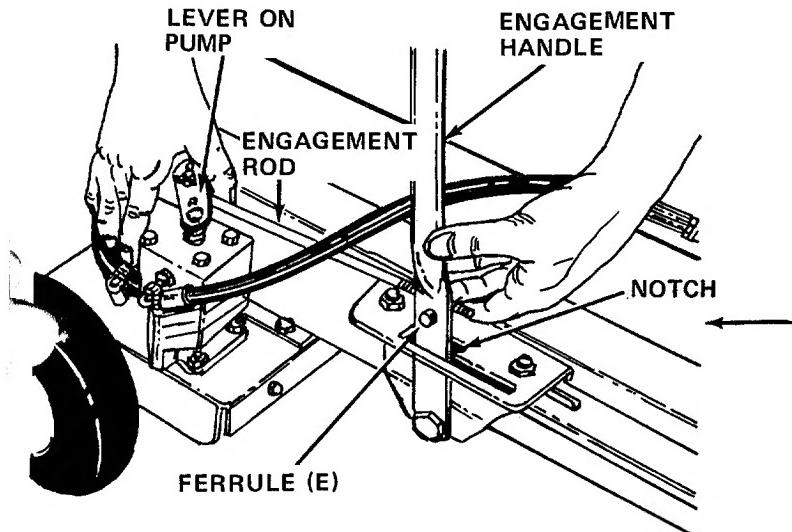

FIGURE 8
- Place the engagement handle in the notch in the slotted bracket (Reverse position). See figures 8 and 11. Thread the ferrule (E) onto the end of engagement rod.
- Push the lever on top of the pump as far toward the rear of the unit as it will go as shown in figure 8. Hold it in this position and adjust the ferrule on the engagement rod so the ferrule lines up with the hole in the engagement handle.
- Secure the ferrule to engagement handle with flat washer (G) and hairpin cotter (F).